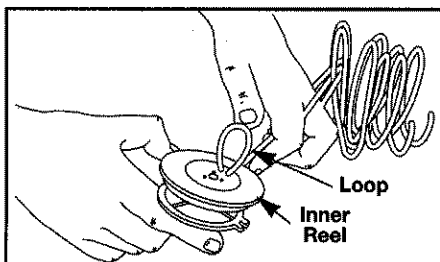

Fig. 16
1. Take approximately **25 feet (7.6 m)** of new trimming line, loop it into two equal lengths. Insert each end of the line through one of the two holes in the inner reel (Fig. 16). Pull the line so that the loop is as small as possible.